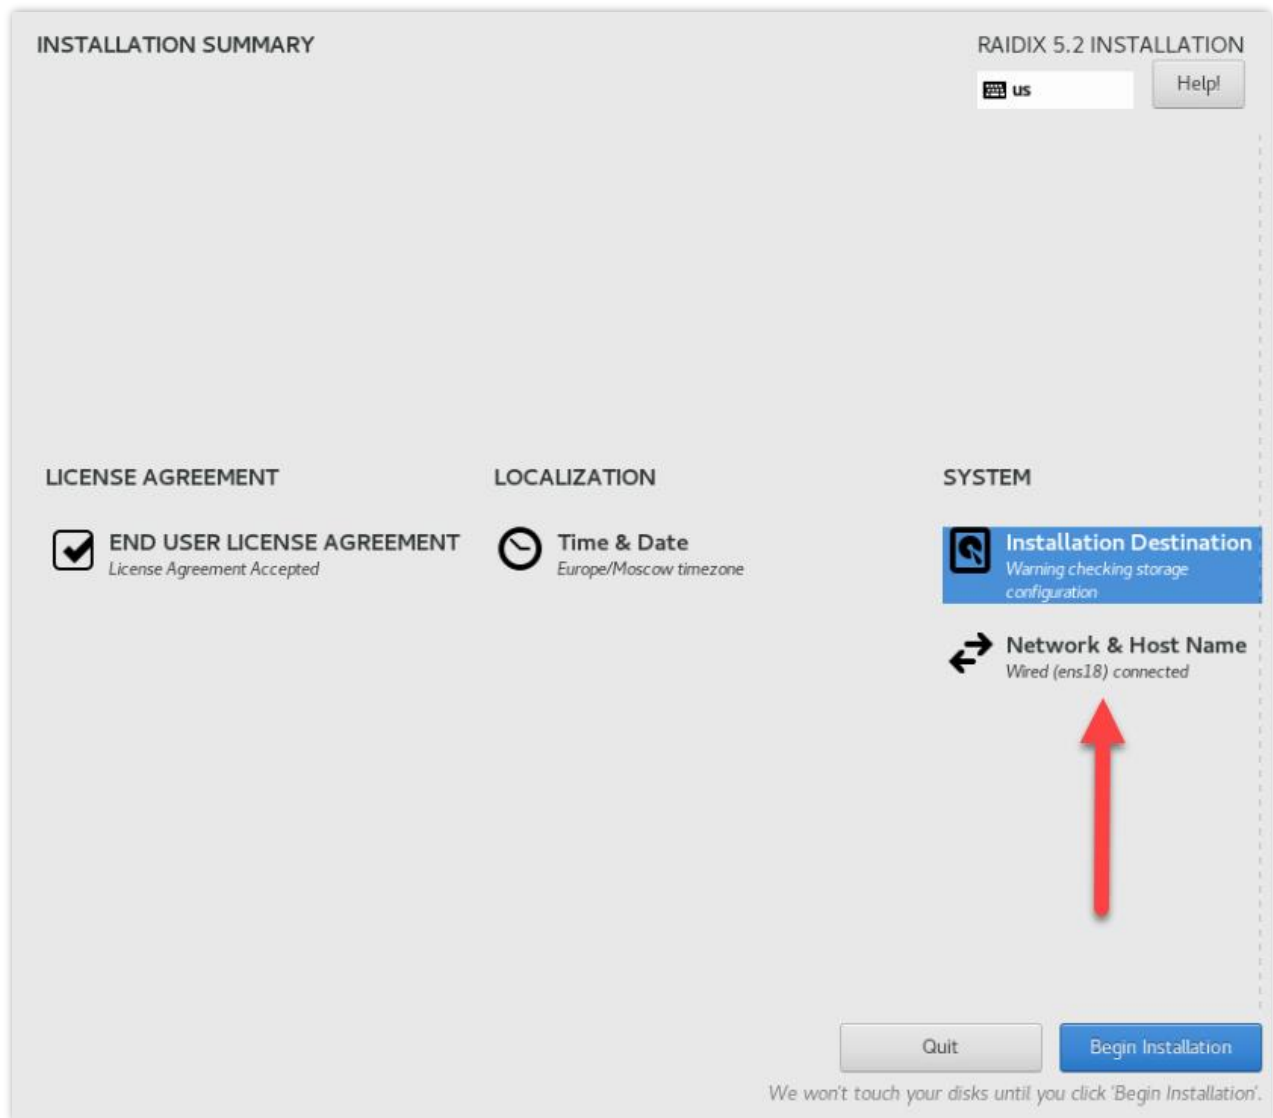

Figure 17. Front page: selecting NETWORK & HOST NAME
1. On the *INSTALLATION SUMMARY* page, click **Network & Host Name** (Figure 17).